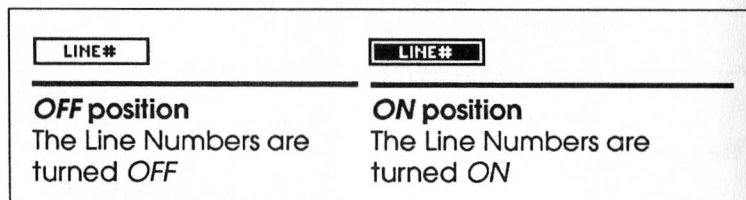

Figure 4-7 A Pushbutton switch in Action
- ❖ **Pushbutton switches** are a special kind of key used to toggle modes *ON* and *OFF*. When a mode is *ON*, the pushbutton key will appear inverted (see Figure 4-7). Pushbutton switches can be mapped to keystrokes during construction. Pushbuttons can be wired for a variety of purposes, all of which are listed in Chapter 6.